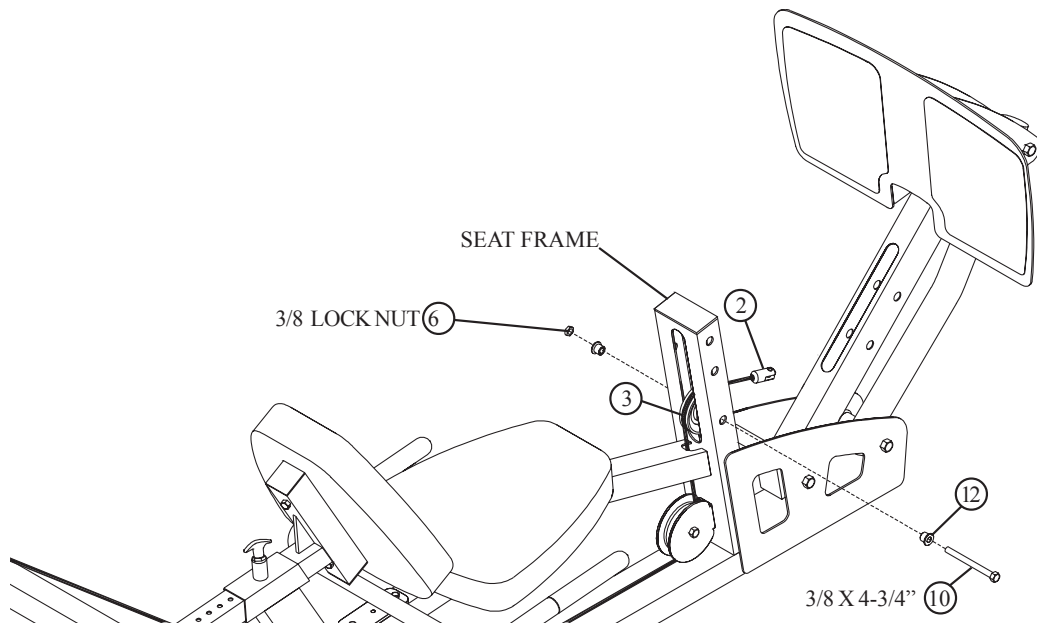

FIGURE 9
- Carefully route the LEG PRESS CABLE (2) around one 3-1/2" PULLEY (3) and **SECURELY** assemble the 3-1/2" PULLEY (3) to the SEAT FRAME using one 3/8" X 4-3/4" BOLT (10), two STEP SPACERS 1-19/32" (12) and one 3/8" LOCK NUT (6) as shown in FIGURE 9. Make sure the CABLE is in the grooves of all the pulleys.